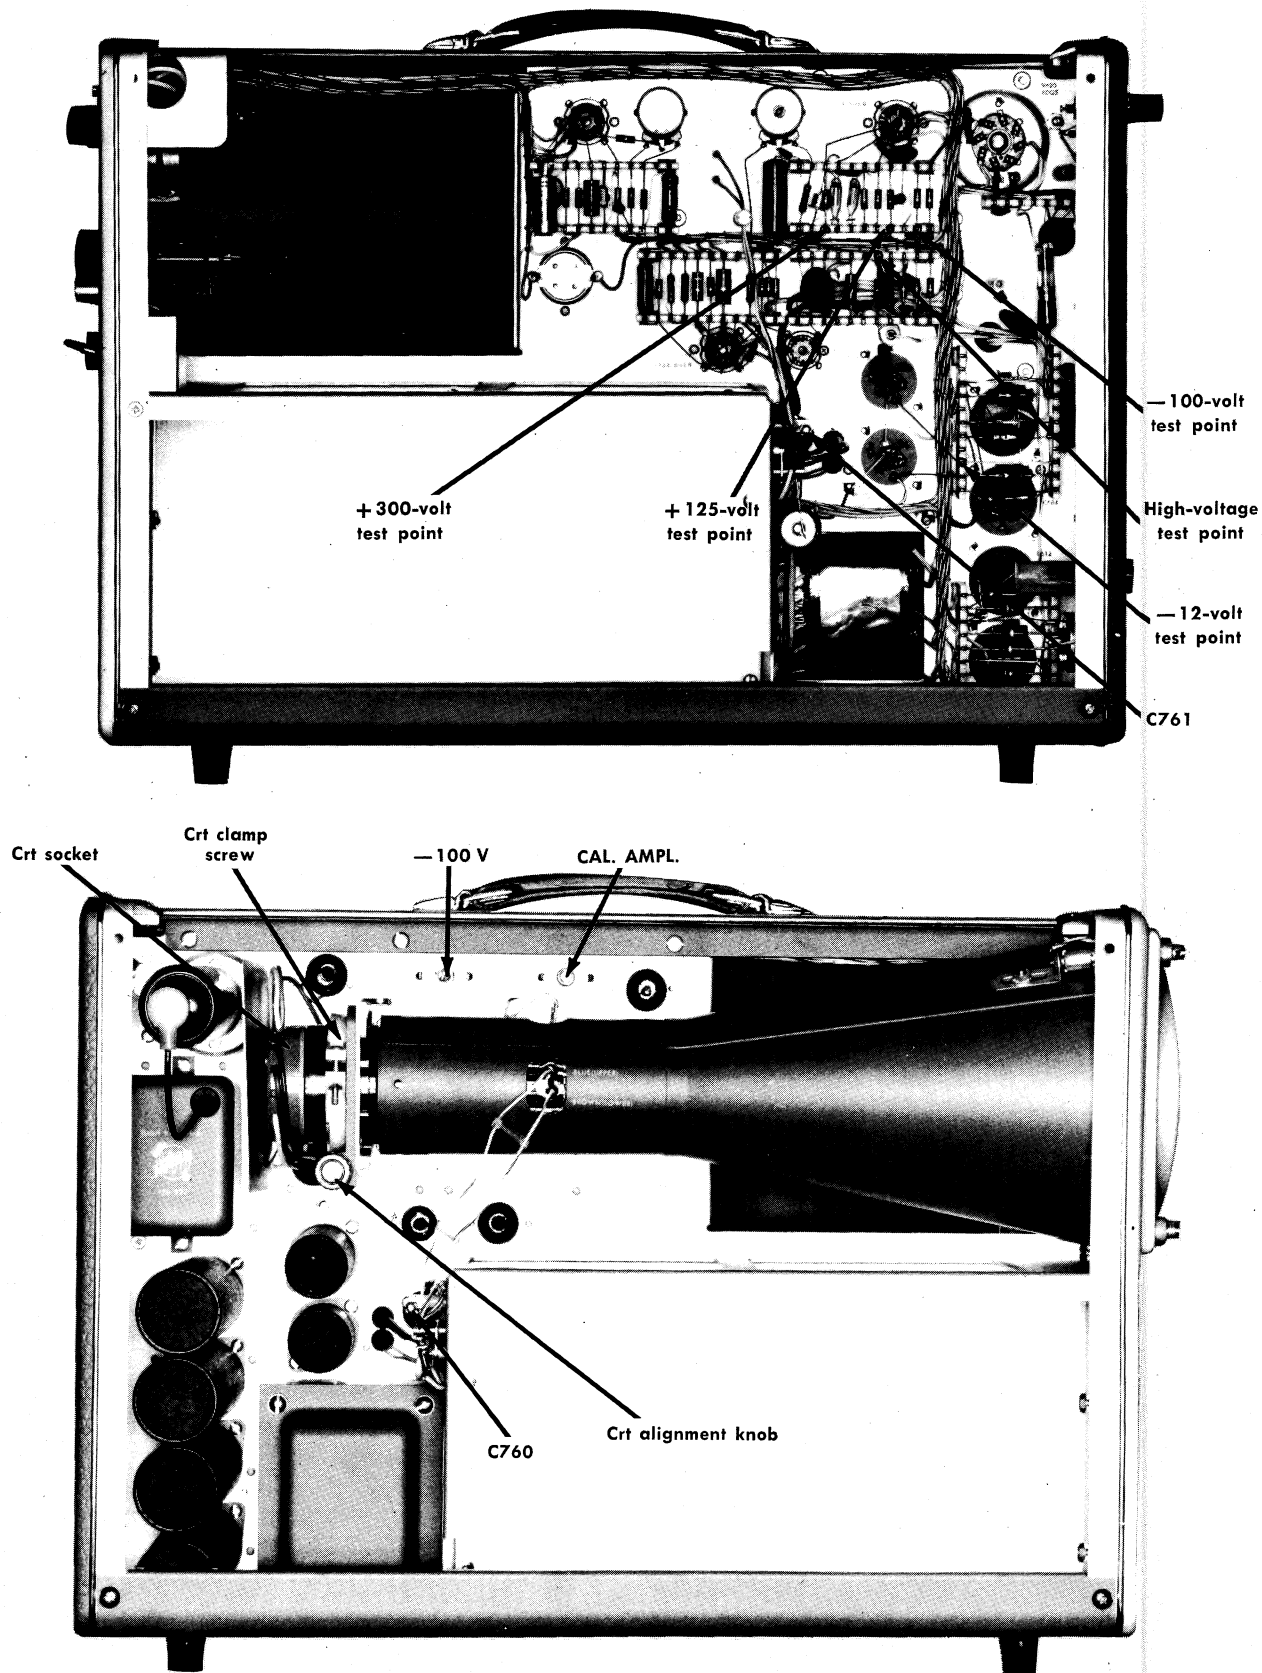

Fig. 2-1. Type 560 Indicator Unit, right and left side views.
The first step in troubleshooting the Indicator Unit is to measure the power-supply voltages, both at the outputs of the supplies (see Fig. 2-1) and at pins 10, 15, 16, and 23 of the interconnecting plugs. (Two plug-in units known to be in proper operating condition, or which have been checked for proper resistance between the interconnecting plugs and ground, should be inserted. If one of the plug-ins is a time-base unit, its TIME/DIV. switch should be set to EXT. INPUT.) Checking each of the voltages at both places will pinpoint any broken wires in the circuit. If the outputs of all of the supplies are correct (as shown on the schematic diagram), but trouble still exists in the Indicator Unit, the trouble is probably in the crt circuit, in the -3400-volt supply, or in the crt itself. In this case, check the voltages and resistances in the crt circuit. If they are all as indicated on the crt schematic diagram, the crt is faulty and must be replaced.
With a minimum load of at least one plug-in unit, measure the output of the +300-, +125-, -12-, and -100-volt supplies at pins 10, 15, 16, and 23, respectively, of either plug-in connector. Set the -100 VOLTS adjustment (Fig. 2-1) so that all of the supplies are within the tolerances shown on the schematic diagram.
Check to see that the face of the cathode-ray tube rests snugly against the graticule. If it does not, loosen the crt clamp screw (Fig. 2-1) and move the tube forward by
If you are using a time-base unit, set it for a free-running sweep. If you are not using a time-base, apply a signal to the right-hand plug-in to produce a horizontal trace at least 10 divisions long. Position the trace directly behind the horizontal centerline of the graticule. Adjust the crt alignment knob (Fig. 2-1) as necessary to align the trace with the graticule line.
Set the CALIBRATOR switch to OFF, and set the CAL. AMPL. adjustment (Fig. 2-1) so that the voltage at the cathode (pin 7) of V884B is exactly +100 volts. Calibration of the various settings of the CALIBRATOR switch is not necessary.
7. Adjust C760 (Fig. 2-1) until the measured capacity in step 6 equals the value of C3 obtained in step 5.
9. Repeat steps 1 through 8, applying them to the right-hand opening and adjusting C761 (Fig. 2-1) instead of C760.